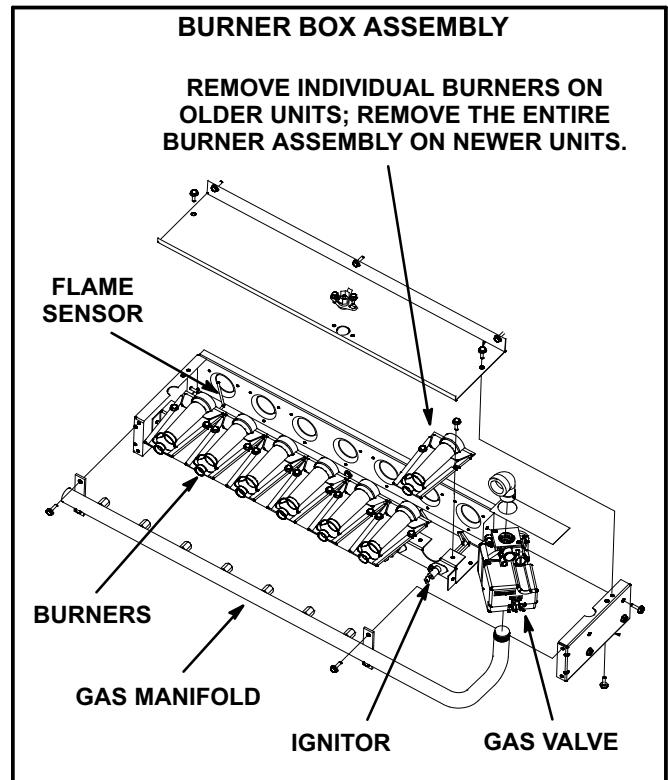

FIGURE 28
- 4- Remove screws securing burners to burner support and lift the individual burners or the entire burner assembly from the orifices. See figure 28. Clean as necessary.